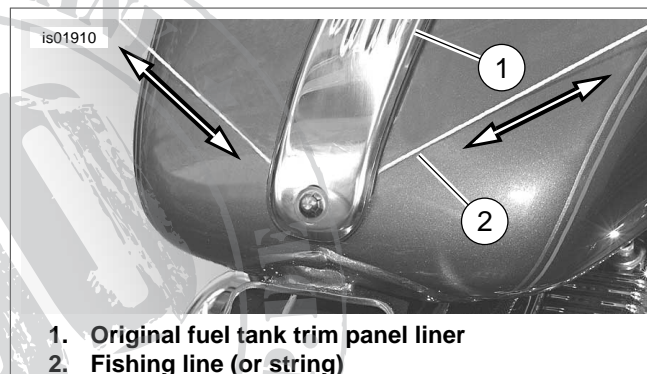

Figure 1. Removing the Existing Trim Panel (XL 1200C)
5. See Figure 1. Insert the fishing line (2) between the rear of the fuel tank and the liner (1) on the underside of the original trim panel.